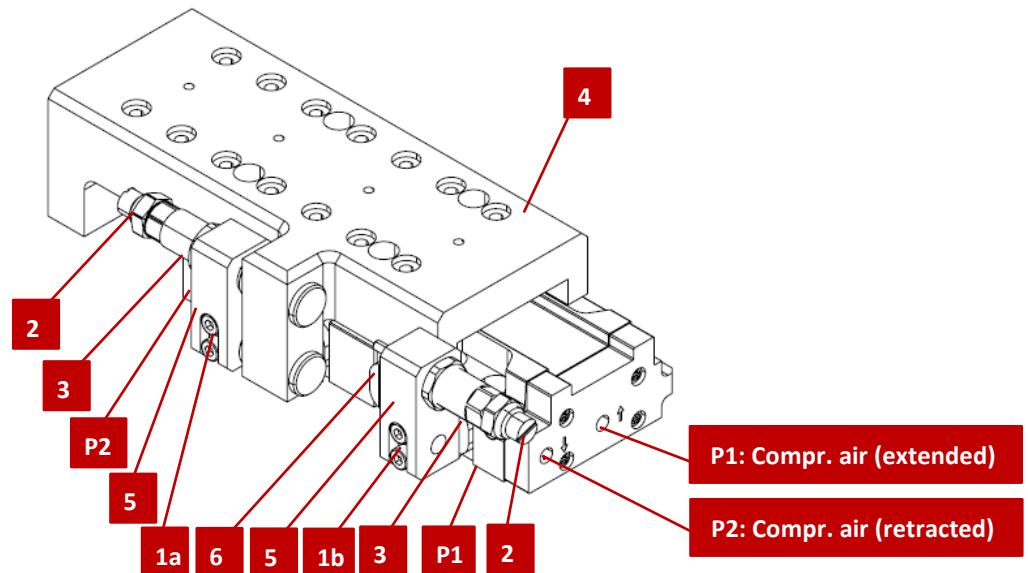

Fig. 23 Installation and adjustment of the compact slide
1. Connect compressed air to P1 (Fig. 23, P1) (slide extend).
2. Loosen screw (Fig. 23, 1).
3. Adjust the position by turning the stop sleeve (Fig. 23, 3).
4. Adjust shock absorber by turning (Fig. 23, 2).
5. Loosen screw (Fig. 23, 1a).
6. Connect compressed air to P2 (Fig. 23, P2) (slide retraction).
7. Loosen screw (Fig. 23, 1b).
8. Adjust the position by turning the stop screw (Fig. 23, 3).
9. Adjust shock absorber by turning (Fig. 23, 2).
10. Fasten screw (Fig. 23, 1b).